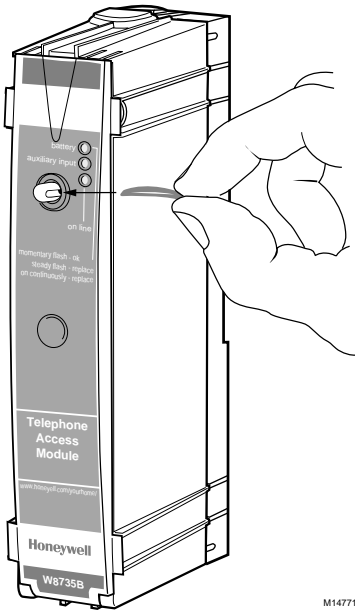

Fig. 12. Inserting module cover latch pin.
6. Insert the module cover latch pin; see Fig. 12.